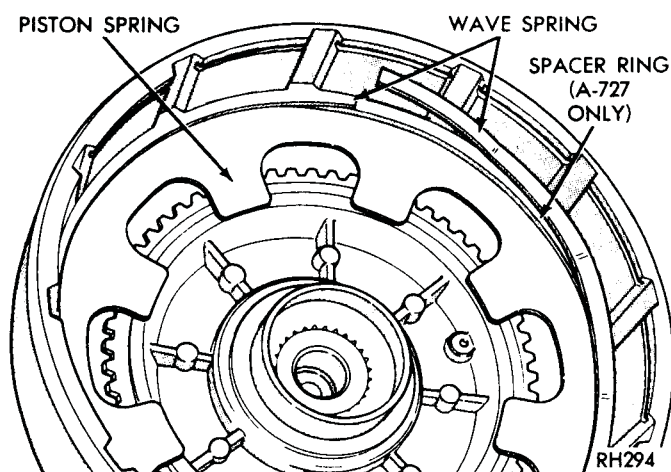
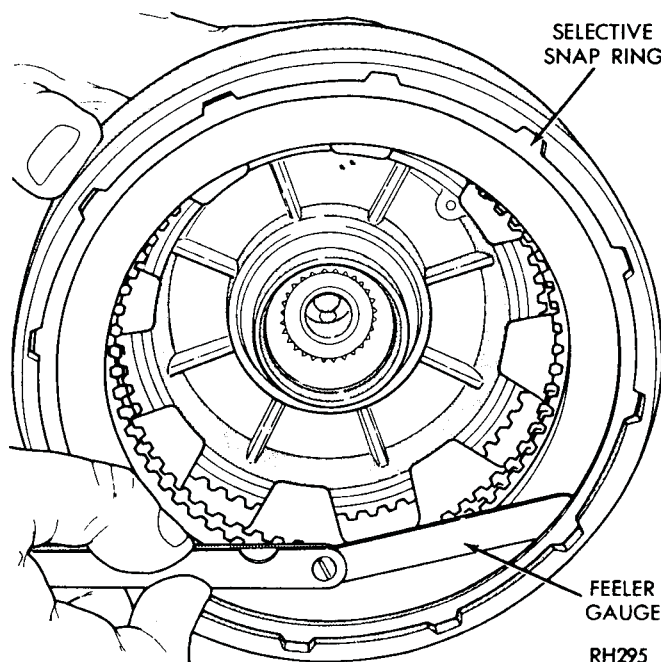

Fig. 28—Install Rear Clutch Spring
Fig. 29—Measure Rear Clutch Plate Clearance
(3) Place piston assembly in retainer and, with a twisting motion, seat piston in bottom of retainer.
(4) Place clutch piston spring on top of piston in clutch retainer. Start one end of wave spring in retainer groove (Fig. 28), then progressively push or tap spring into place making sure it is fully seated in the groove.
(5) Install inner pressure plate in clutch retainer
(6) Lubricate all clutch plates, install one lined disc followed by a steel plate until all plates are installed. Install outer pressure plate and selective snap ring.
(7) Measure rear clutch plate clearance by having an assistant press down firmly on outer pressure plate, then insert a feeler gauge between the plate and snap ring (Fig. 29).
(3) Place piston assembly in retainer and, with a twisting motion, seat piston in bottom of the retainer.
(4) Position clutch retainer over piston retainer splines and support the assembly so clutch retainer remains in place.
(5) Place clutch piston spring and spacer ring on top of piston in clutch retainer, make sure spring and spacer ring are positioned in the retainer recess. Start one end of wave spring in retainer groove (Fig. 28), then progressively push or tap spring into place making sure it is fully seated in the groove.
(6) Install inner pressure plate in clutch retainer with raised portion of plate resting on the spring.
(7) Lubricate all clutch plates, install one lined disc followed by a steel plate until all plates are installed. Install outer pressure plate and selective snap ring.
(8) Measure rear clutch plate clearance by having an assistant press downward firmly on outer pressure plate, then insert a feeler gauge between the plate and snap ring (Fig. 29). See "Specifications" for allowed clearance. If necessary, install a new snap ring